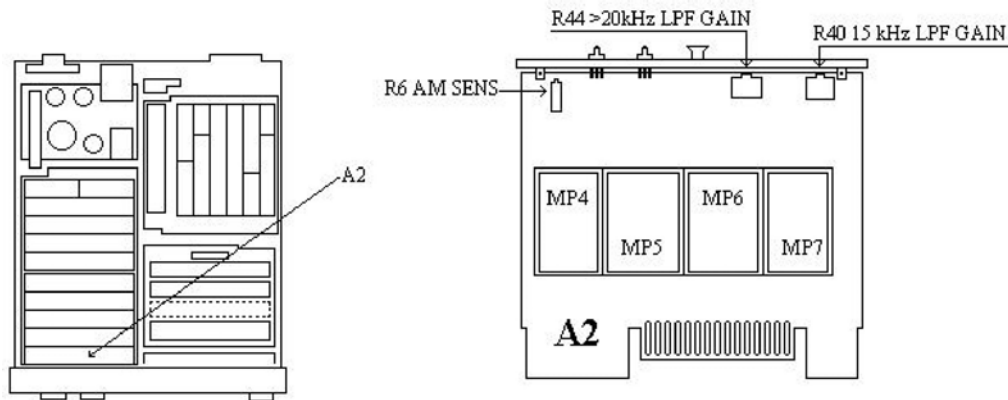
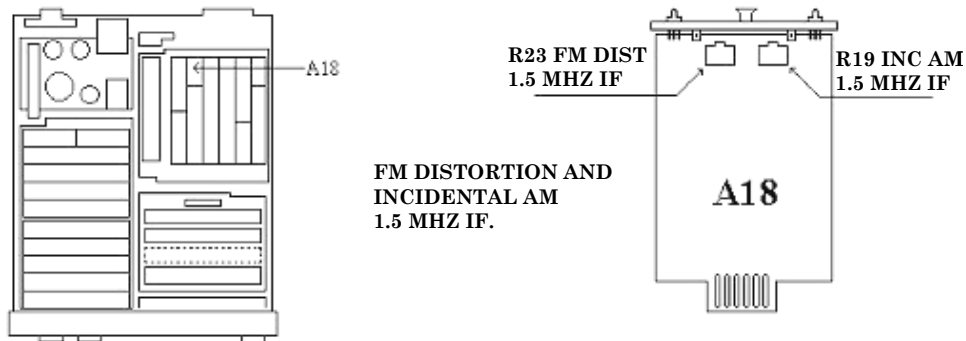
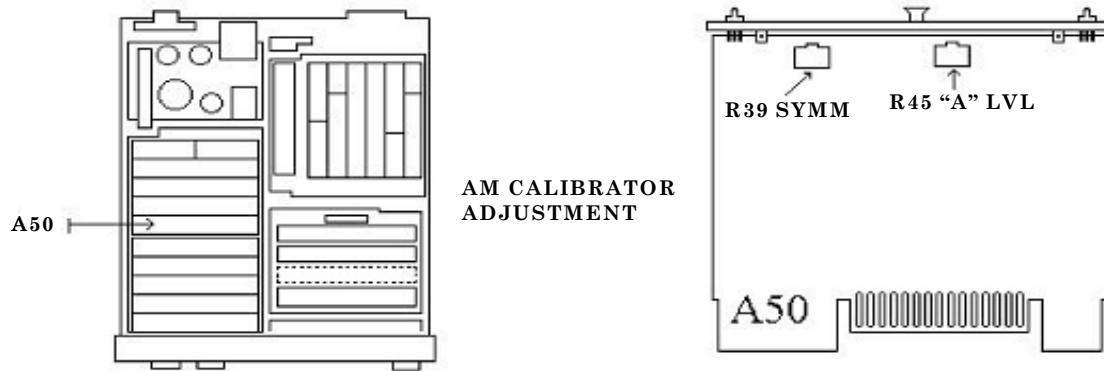

Figure 2. A2 board.
Figure 4. A18 board.
Figure 5. A50 board.
- (2) Press TI keys as listed in (a) through (f) below:
- (3) Connect TI sensor module to signal generator No. 1 **RF OUTPUT**.
- (4) Set signal generator No. 1 for an output frequency of 500 MHz at 3 dBm with 30 percent AM at a 1 kHz rate.
- (5) Adjust A2R44 >20kHz LPF GAIN (fig. 2) for a display of 99.95 to 100.05 percent (R).
- (6) Press TI **LP FILTER 15 kHz** key.
- (7) Adjust A2R40 15kHz LPF GAIN (fig. 2) for a display of 99.95 to 100.05 percent (R).
- (8) Disconnect TI sensor module from signal generator No. 1 **RF OUTPUT**.
- (9) Connect TI sensor module to TI **CALIBRATION RF POWER OUTPUT**.
- (10) Press TI keys as listed in (a) through (d) below:
(22) Adjust A18R23 FM DIST 1.5 MHz IF (fig. 4) for equal indications between TI **PEAK+** and **PEAK-(R)**.
(23) Press TI keys as listed in (a) and (b) below:
(24) Switch TI **DETECTOR** between **PEAK+** and **PEAK-**. The difference should be <1.6 kHz. If not, adjust A18R23 FM DIST 1.5 MHz IF (fig. 4) to reduce the difference by one-half. Note the indications as PK1+ and PK1-.
(25) Press TI **↑kHz** key.
(26) Switch TI **DETECTOR** between **PEAK+** and **PEAK-**. Note the indications as PK2+ and PK2-.
(27) TI is properly adjusted when  $[(PK1+ - PK1-) + (PK2+ - PK2-)] < 1.6$  kHz.
(28) Move connection from AM/FM test source **FM OUTPUT** to AM/FM test source **FM/4 OUTPUT**.
(29) Press TI keys as listed in (a) and (b) below:
(30) Set calibrator for a wideband output of 1 kHz at an amplitude of 250 mV.
(31) Adjust calibrator output level for a TI indication of 50 kHz.
(32) Press TI **MEASUREMENT AM** key.
(33) Adjust A18R19 INC AM 1.5 MHz IF (fig. 4) for a minimum display <0.2 percent (R).
(34) Disconnect equipment setup.
(35) Connect TI sensor module to TI **CALIBRATION AM/FM OUTPUT**.
(36) Press TI keys as listed in (a) and (b) below:
(37) Adjust A50R45 "A" LVL (fig. 5) for a display of 33.330 to 33.336 percent (R).
- (38) Press TI keys as listed in (a) and (b) below:
- (39) TI display should indicate between 1.8 and 2.2.
- (40) Press TI keys as listed in (a) through (d) below:
- (41) Alternately switch TI **DETECTOR** between **PEAK+** and **PEAK-**. Note the indications for each setting.
- (42) Adjust A50R39 SYMM (fig. 5) until the indications are the same for both detectors within  $\pm 0.015$  percent (R).